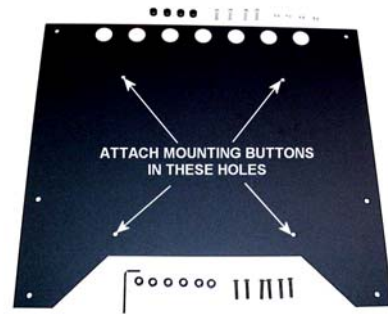

Figure 1
1. Using the 5/16-18 hex head cap screws inserted through the button at a spacing of 14", secure mounting button, with the ny-lock nuts, to bracket (four places) (See Figures 1 & 2). Tighten securely utilizing a two 1/2" wrenches.